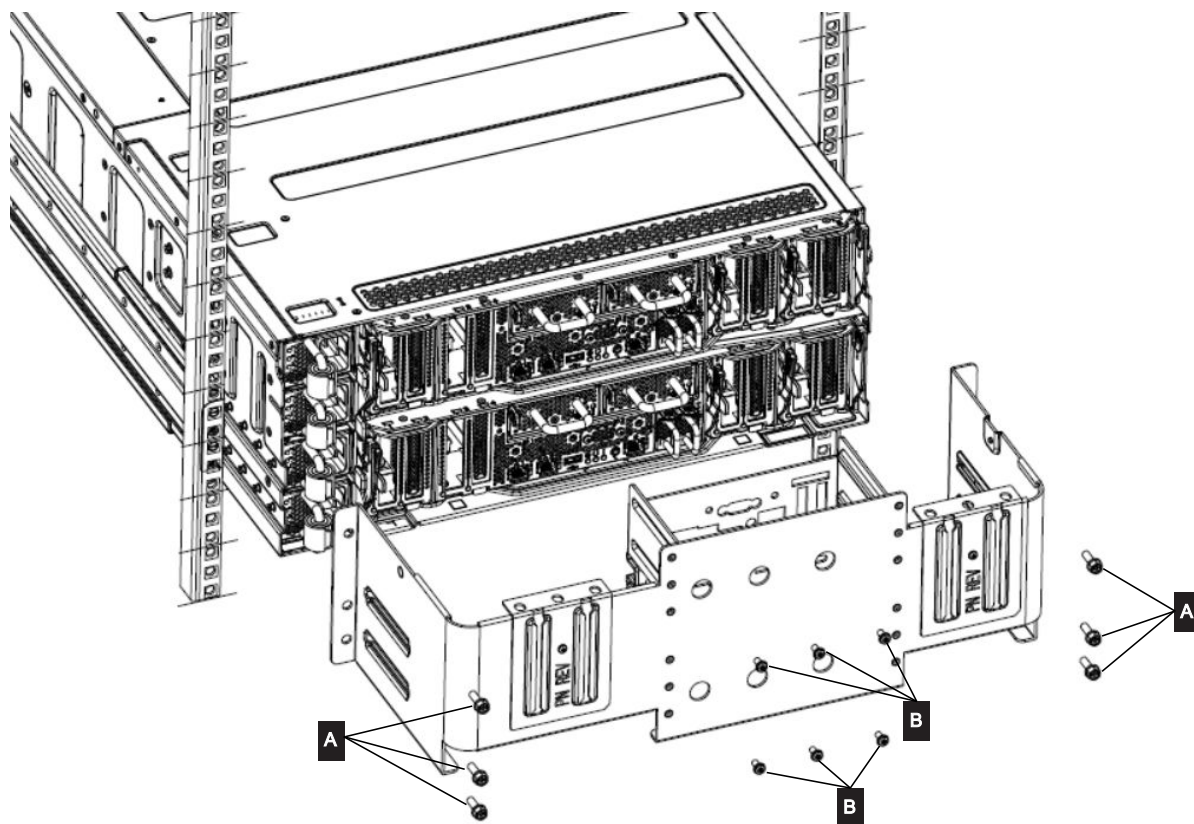

Figure 243. Removing the shipping bracket from the back of a control enclosure.
1. Remove the 3 screws shown as A in Figure 243 on page 330 on each side of the shipping bracket
2. Remove the 6 screws shown as B in Figure 243 on page 330 holding the middle of the shipping bracket to the back of the control enclosure.